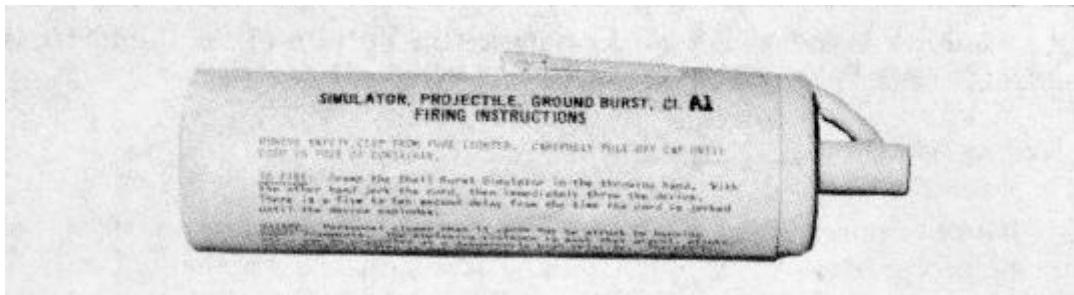

Figure 5-6     Simulator, Projectile, Ground Burst, C1 Series
1. General. The complete simulator assembly is made up of a simulator and a fuze lighter as illustrated in Figure 5-6. The simulator portion has the following main components: